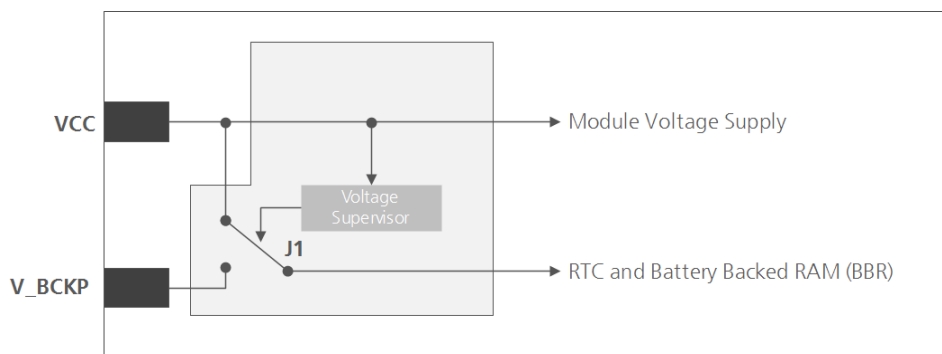

Figure 1: Backup battery and voltage (for exact pin orientation, see the corresponding product data sheet)
-  As long as power is supplied to the NEO-M8L modules through the **VCC** pin, the backup battery is disconnected from the RTC and the BBR to avoid unnecessary battery drain (see Figure 1). In this case, **VCC** supplies power to the RTC and BBR.